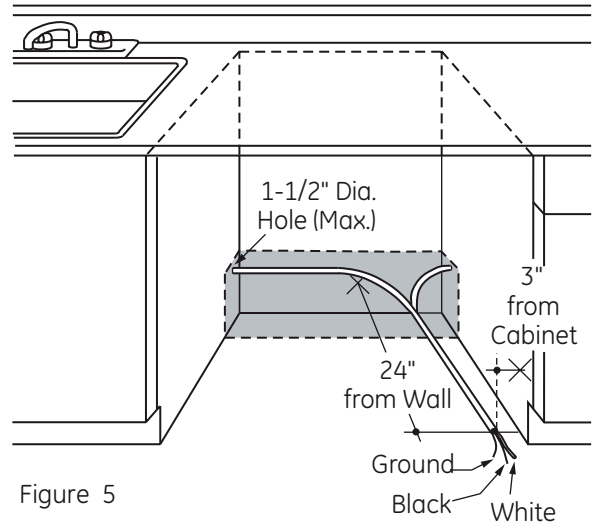

Figure 5
- For cable direct connections the cable must be routed as shown in Figure 5. Cable must extend a minimum of 24" from the rear wall.